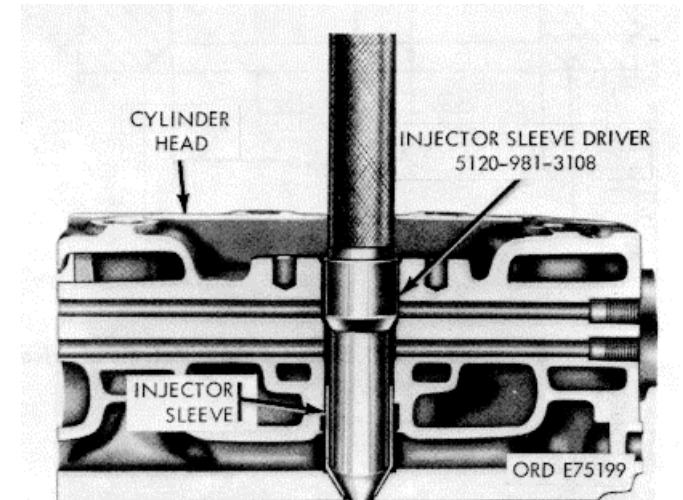

Figure 3-40. Injector sleeve installation.
(1) Install injector sleeves using sleeve driver (14, fig. B-28) as shown in figure 3-40.